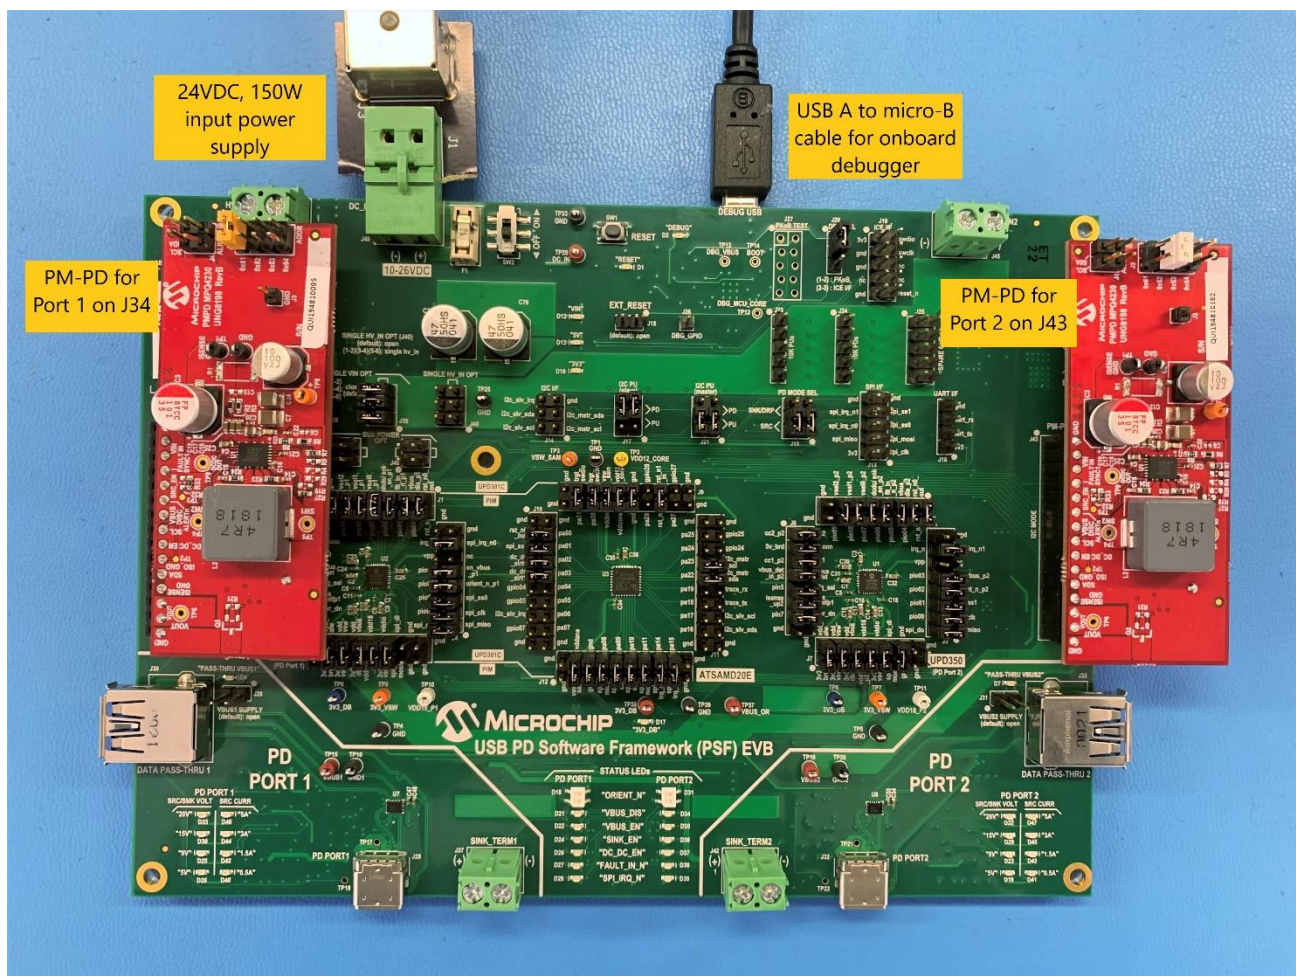

Figure 5.5 EVB-PSF Full Setup
6. The whole connection is shown in Figure 5.5,